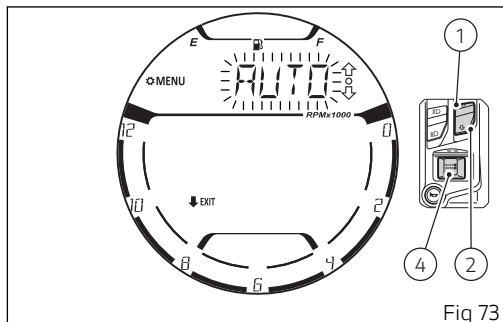

Fig 73
When entering this function, the instrument panel will display the currently set value flashing (Fig 73). With buttons (1) and (2) it is possible to scroll and select (flashing) the available settings: "AUTO", "HIGH", "MEDIUM", "LOW".